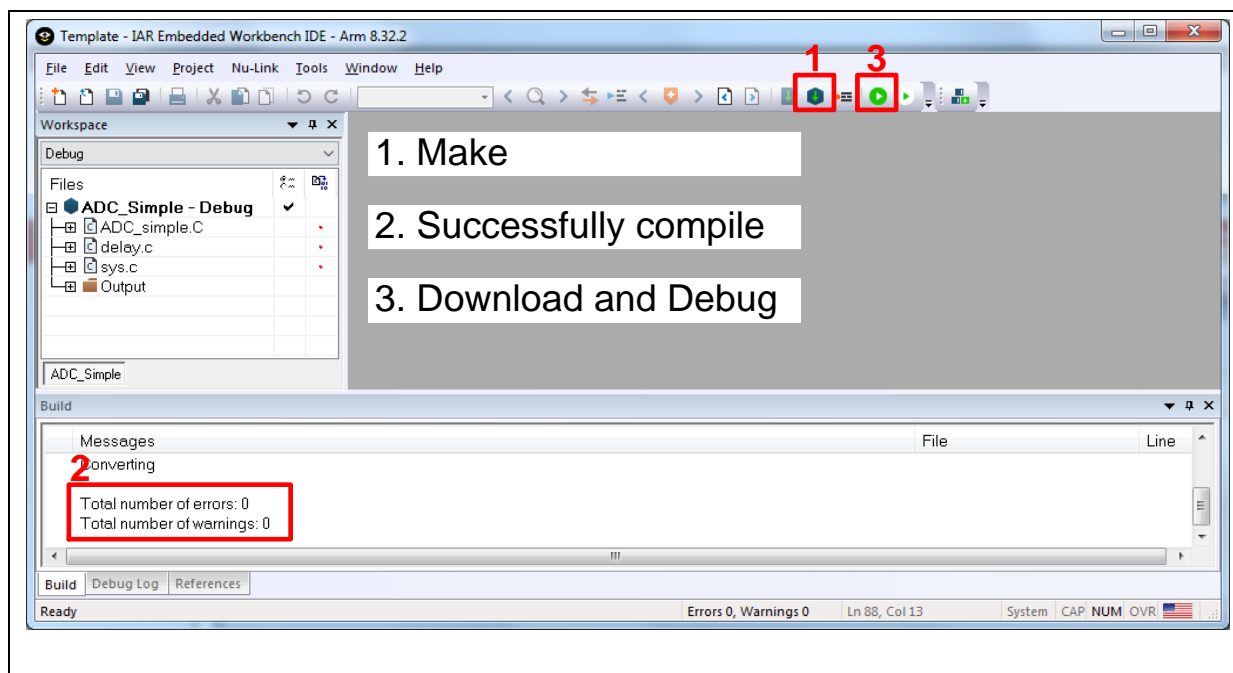

Figure 4-17 IAR EW8051 Debug Mode
4. Figure 4-17 shows the debug mode under IAR EW8051. Click “Go” and the debug message will be printed out as shown in Figure 5-1. User can debug the project under debug mode by checking source code, assembly language, peripherals’ registers, and setting breakpoint, step run, value monitor, etc.